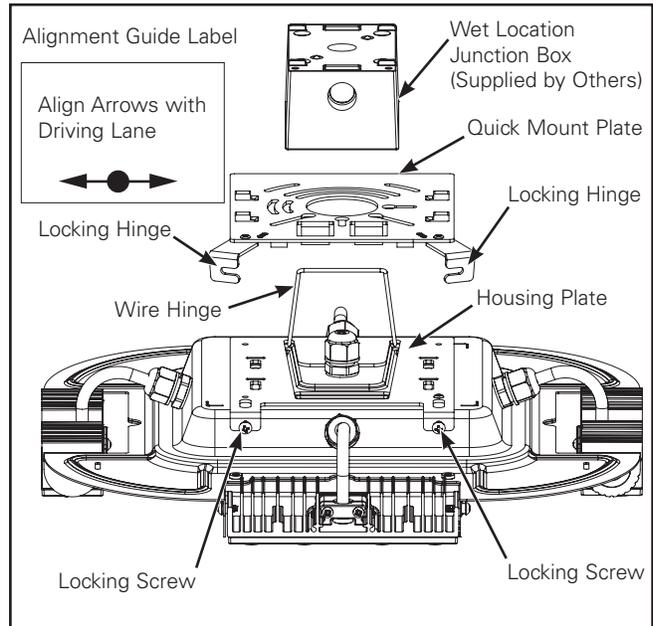

Figure 3.
Align quick mount plate to junction box by aligning arrows with parking garage driving lanes (Figure 3). Direction of arrows should be in line with direction of traffic.
3. Unhook quick mount plate from the wire hinge. (Figure 3.)
4. Install the quick mount plate onto a wet location junction box (Supplied by Others) using the hardware supplied (#8-32x3/4" or #6-32x3/4" screws). See alignment guide above and the alignment arrows on the quick mount plate label. (Figure 3.)